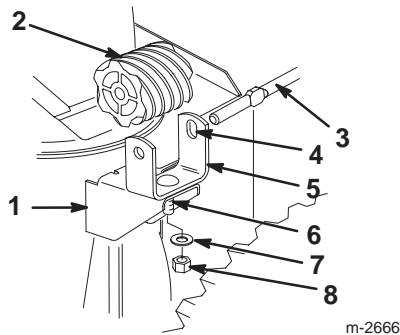

Figure 16
5. Insert the carriage screw into the worm gear bracket mounting hole (Fig. 16).
6. Position the worm gear into the bracket, align the slotted holes in the worm gear and the bracket, and insert the chute gear rod through the slotted holes in the bracket and the worm gear (Fig. 16).
7. Loosely mount the worm gear and the bracket to the mounting flange with a carriage screw, a flat washer, and a locknut (Fig. 16).